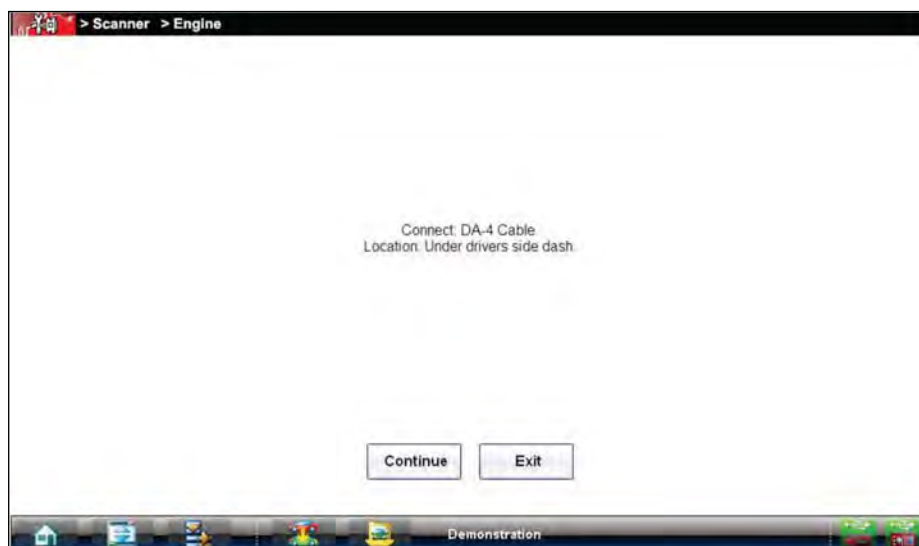

Figure 4-10 Vehicle connection data cable message
On-screen cable and adapter connection instructions are provided while using the Scanner and OBD-II/EOBD functions. The instructions may also include the location of the vehicle DLC (Figure 4-10). If required, additional connection information can be found in the appropriate vehicle communication software manual for the vehicle. Vehicle communication software manuals are available online, see the website information at the front of this manual
1. Follow the on-screen instructions for connecting to the vehicle (Figure 4-10).